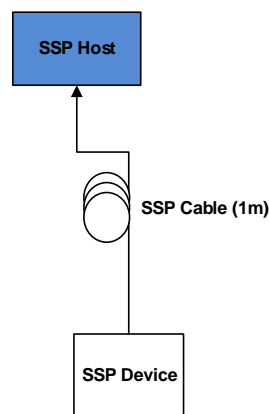

Figure 11-1: Modified Host/Device SSP Interoperability Interim Tree (with SSP Device)
- Operate one SSP Device at root port of the SSP Host (see Figure 11-1)